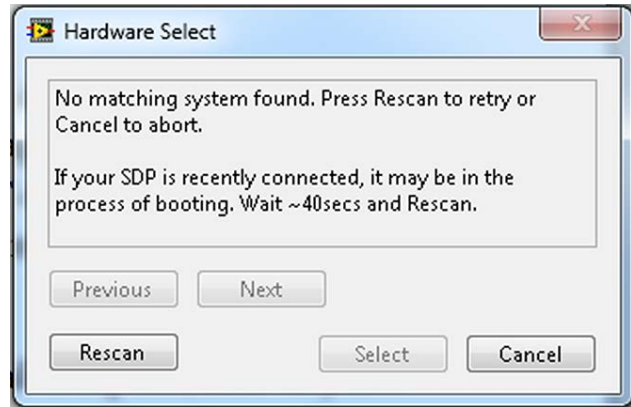

Figure 7. Pop-Up Window Error
2. If the SDP board is not connected to the USB port when the software is launched, a connectivity error displays (see Figure 7). If a connectivity error is displayed, connect the evaluation board to the USB port of the PC and wait a few